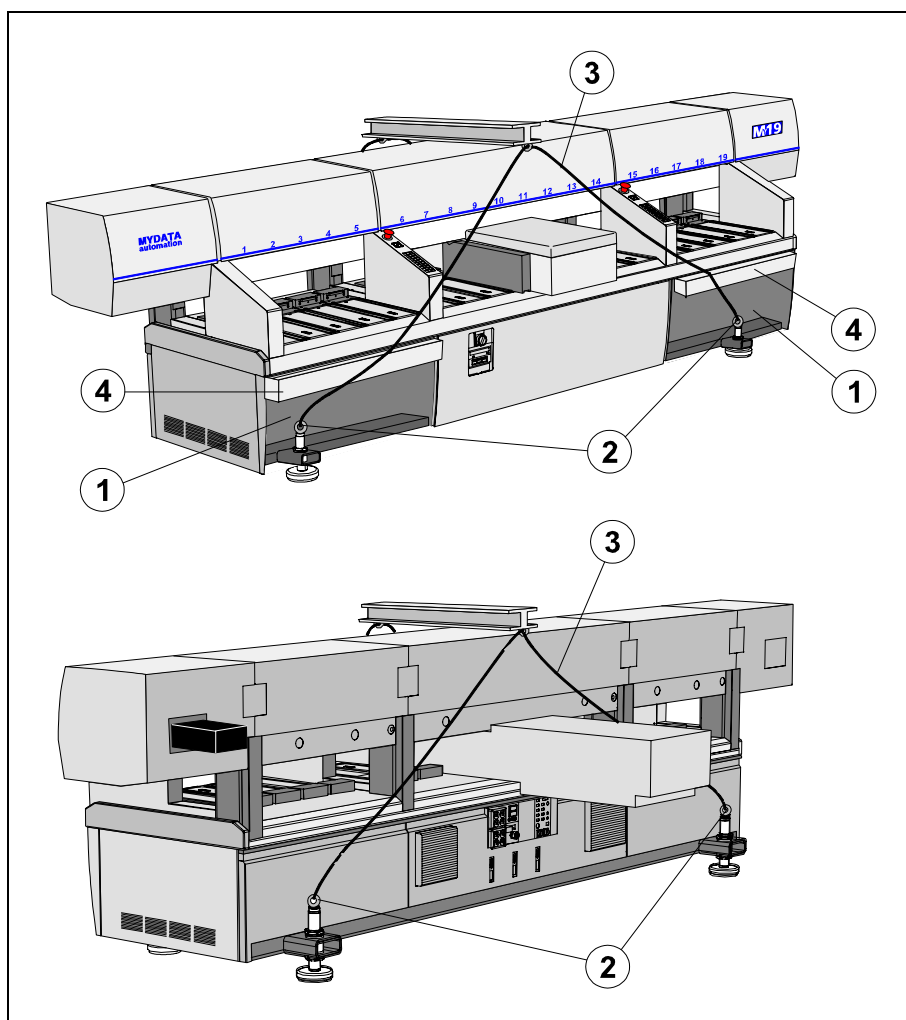

Figure 3-4. Crane lift
Figure 3-4 shows a MY19 machine, but the procedure is the same for all the machines in the MY series. The numerals in the Figure 3-4 refer to the description.
3. *For MY9:* Fit the hoisting cable as in Figure 3-4 for the two eye bolts on the rear of the machine. Fit the front hoisting cable *around* the two front leveling feet.